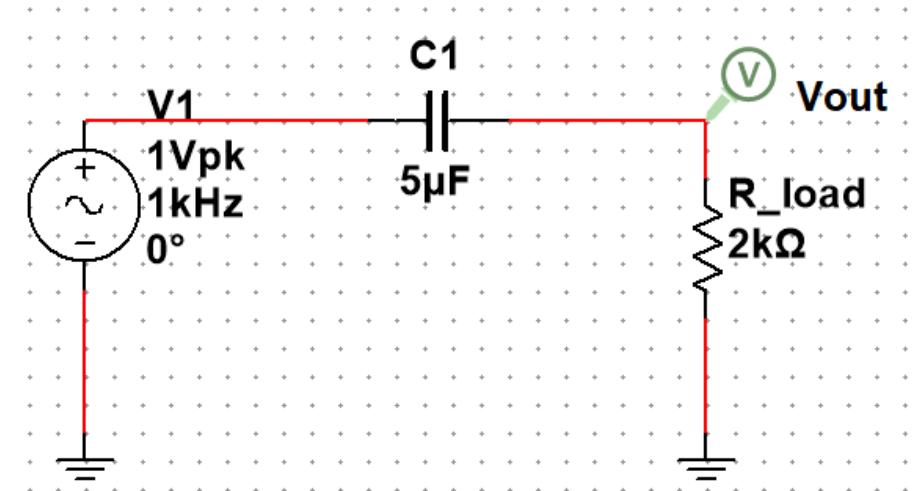

Fig. 2: the RC circuit
-> A dialog window, named “Analysis and Simulation” will appear (Fig. 2)